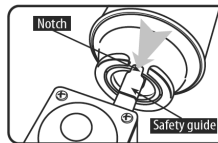

Fig. 3
- Open the gas cartridge cover and insert the cartridge so that the regulator guide is aligned with the notch in the cartridge rim. (Fig. 3)